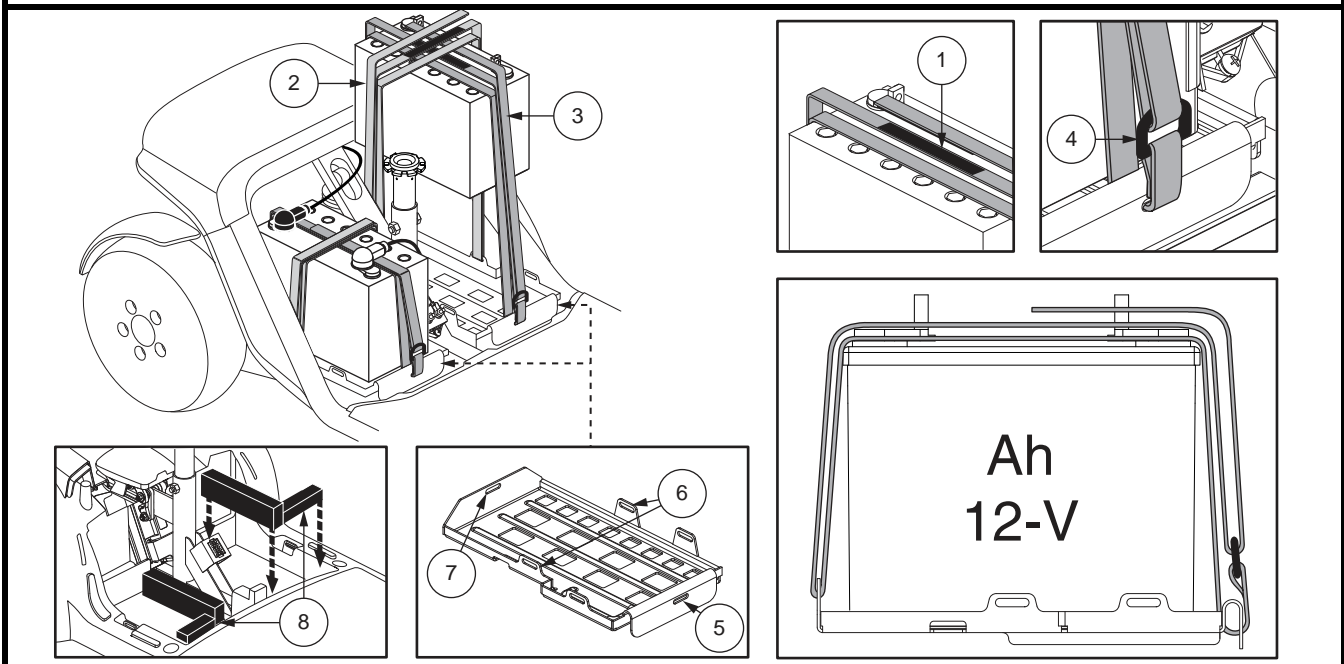

Figure 16. Battery Securement for Models 614 and 714
**NOTE:** Some scooters have spacers installed to secure the batteries. You may want to remove the spacers for safe keeping until the batteries are replaced in the scooter. **See figure 16.**
**NOTE:** Models 614 and 714 use battery straps to secure batteries in the battery wells. Please refer to figure 16 for battery strap installing procedures.